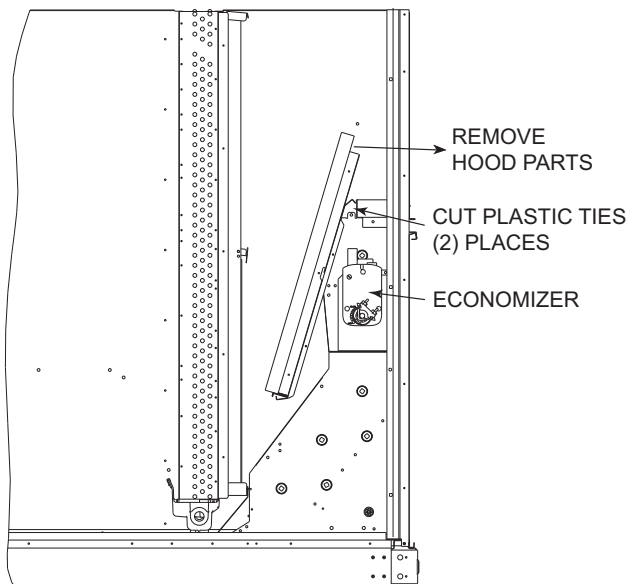

Fig. 14 — Economizer Wiring
3. Locate and cut the (2) plastic tie-wraps, being careful to not damage any wiring. (See Fig. 14.)